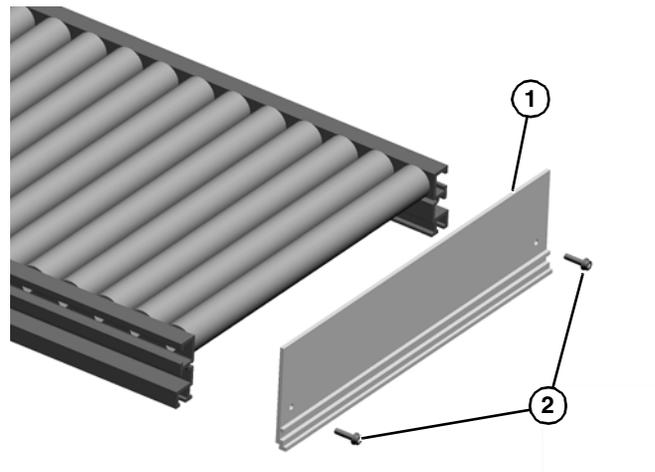

Figure 5
1. Attach the flat side of the end stop (**Figure 5, item 1**) to the conveyor with two screws (**Figure 5, item 2**).